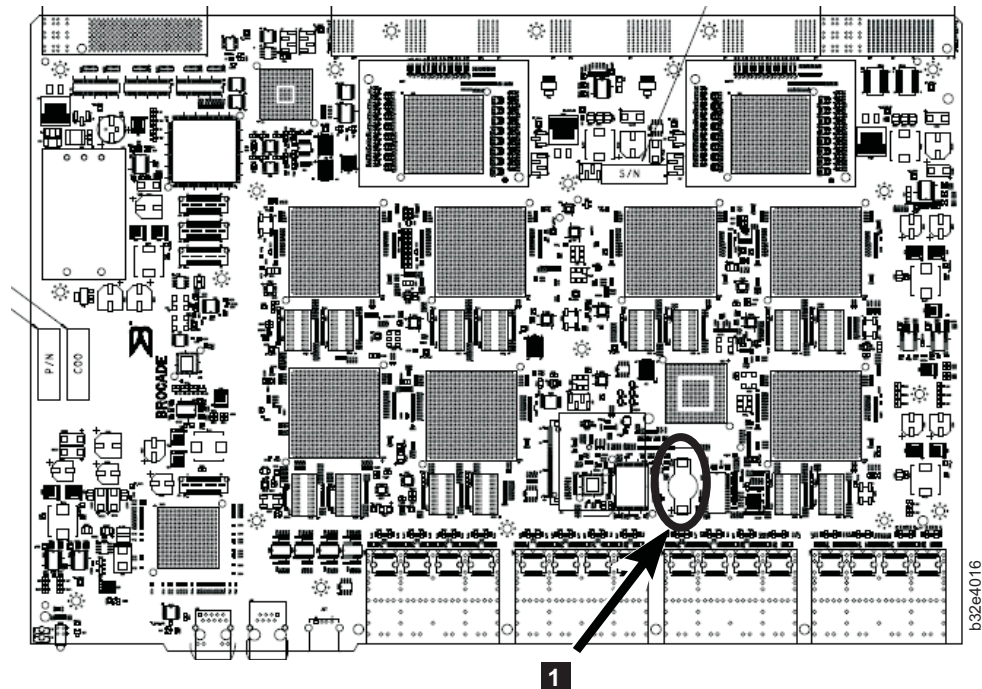

Figure 52. Encryption blade battery location
7. For the optional FS8-18 encryption blade, go to the BC1 location (see **1** in Figure 52 on page 109) on the main board and remove the BR1225 battery.